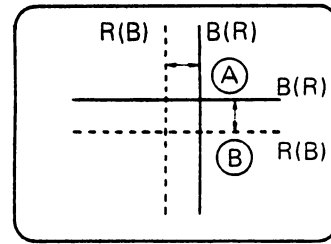

Figure 5-13
- d. Carefully watch the intersection of cross-hatch pattern at the center of the screen and gradually move the knobs of two 4-pole magnets until there is no misconvergence between red and blue vertical lines as shown in Figure 5-13.
- e. Keep the angles of two 4-pole magnets constant and gradually move the knobs simultaneously until there is no misconvergence between red and blue horizontal lines as shown in figure 5-13.